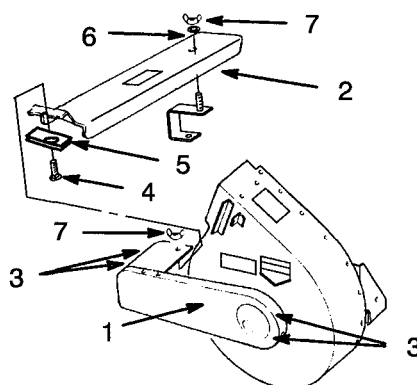

Figure 10
16. Install outside belt cover to blower and mower with (4) 5/16-18 x 1/2 thread forming bolts (Fig. 10).
17. Secure flat plate (1 x 2-1/2) with square hole, 5/16-18 x 3/4 carriage bolt, and two wing nuts. Place plate over carriage bolt and loosely install in outside belt cover using one wing nut (Fig. 10).